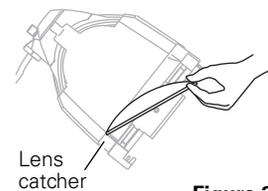

Figure 3
7. When the lens drops, remove your finger, allowing the lens to slide forward until it rests on the lens catchers (**Figure 3**).